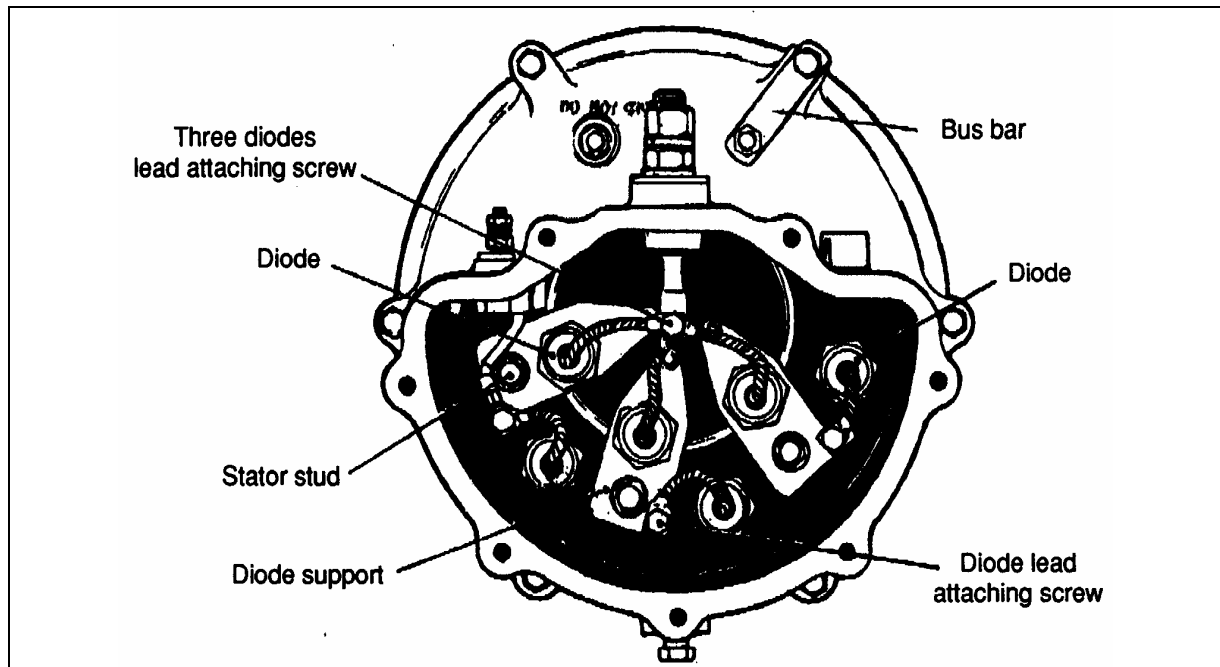

FIGURE 20: VIEW OF RECTIFIER END FRAME WITH COVER REMOVED
5. Disconnect all diode flexible leads; i.e. three from the output terminal stud and three from the diode supports. See figure 20 for more details.